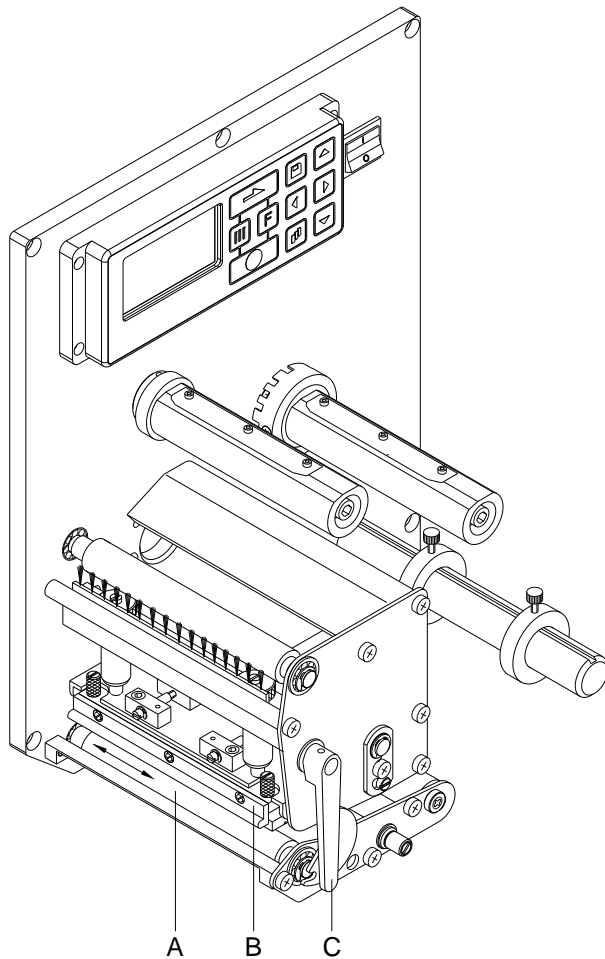

Figure 15
2. Turn the red lever (B, in Figure 15) anticlockwise to lift up the printhead.